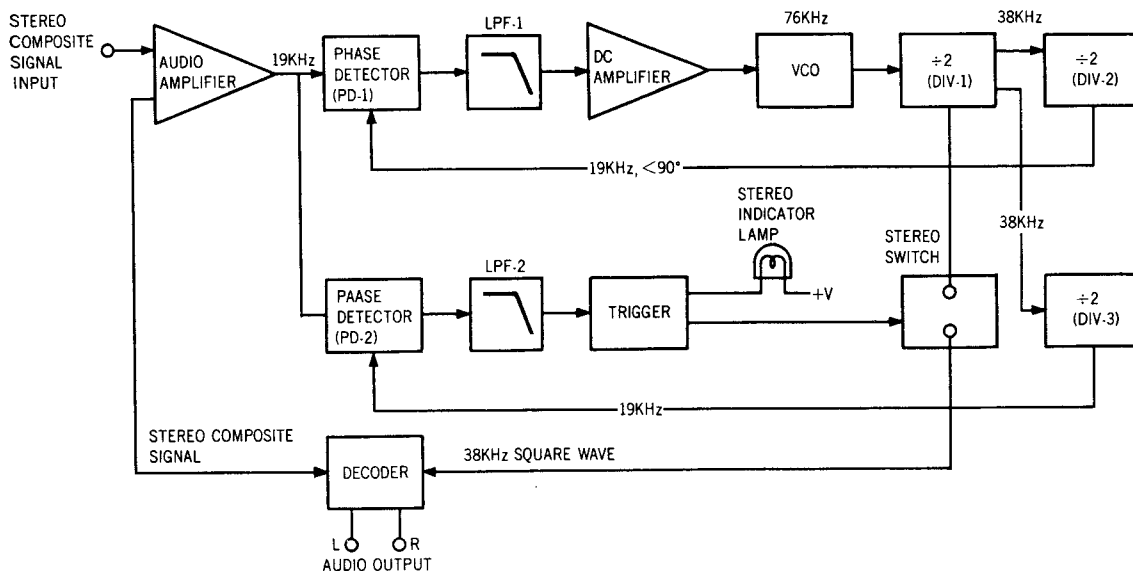

Figure 1. Block Diagram of the HA1156
The stereo composite signal from the buffer amplifier undergoes a phase compensation by R301 and C301, is applied through the muting switching FET H301 to the input terminal pin ②, of the MPX stereo decoding IC H321 on a PLL (Phase Locked Loop) basis, and decoded into the left and right stereo signals, which become available at pins ④ and ⑤ respectively. These decoded left and right stereo audio signals are introduced through a low pass filter composed of L301 to L304 and C311 to C320 for elimination of undesirable residual switching signal and through a de-emphasis network consisting of R325, R326, C321 and C322, into the npn-pnp direct coupled audio amplifier, where the signals are amplified to a required level for the output from J311 and J313. From these jacks, the audio signals are led to the TAPE MONITOR OUT jacks through the function switch. Figure 1 presents an internal block diagram showing the functions of the PLL basis MPX stereo decoding IC HA1156. The input stereo composite signal, amplified by the audio amplifier, is delivered to the phase detectors PD-1 and PD-2. A part of the stereo composite signal is also applied to the stereo decoder section. The VCO (Voltage Control Oscillator) produces a free run oscillation in the neighborhood of 76KHz with the time constant determined by a capacitor C305 and resistors R311 and R312 set on the outside of pin ⑭. The VCO output has its frequency divided into 19KHz through the two stages of the frequency divider (DIV-1 & DIV-2), and is reverted to the phase detector PD-1, which contains two input terminals designed to produce an output in proportion to the product of the two input signals. The signal applied to one of the inputs of PD-1 is the 19KHz square wave formed through frequency division of the 76KHz VCO output signal by the two stages of the frequency divider DIV-1 and DIV-2, and the 19KHz pilot signal included in the stereo composite signal as a reference signal is applied to the other input. Therefore, the output of PD-1 which has passed through the low pass filter LPF-1 provides DC output voltage in proportion to the phase variance between the two inputs. This DC output voltage is amplified by the DC amplifier, and supplied to the 76KHz VCO as a control voltage. This means that the output frequency and phase of the VCO have been phase-locked to the input pilot signal. The 38KHz sub-carrier reproduced by PLL as stated above is delivered through the stereo switch to the stereo decoder section as a switching signal, thus driving the decoder section. One of the inputs of PD-2 is given the 19KHz resulting from the frequency division completed by DIV-1 and DIV-3, whereas the other input gets the 19KHz output contained in the composite signal, and the output is provided with a DC output in proportion to the amplitude of the pilot signal.